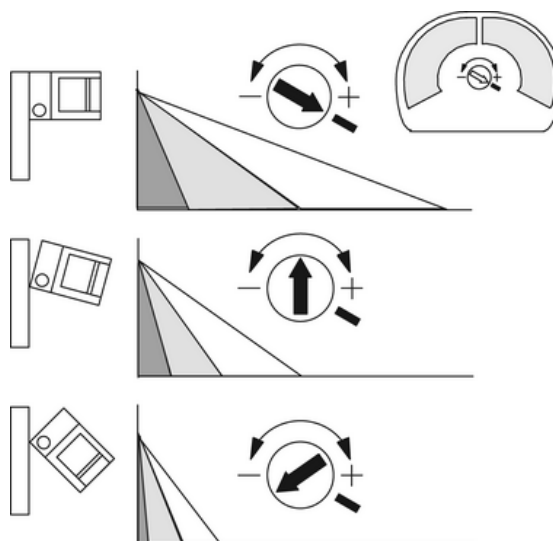

Figure 22
- First select the highest sensitivity level and then reduce the sensitivity after tilting the sensor head (Figure 22).